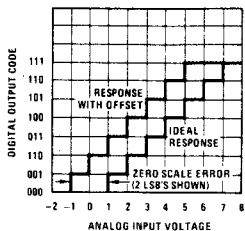

FIGURE 10. A/D Transfer Characteristic with Offset
**Zero Scale Error (or Offset):** Zero Scale Error is a measure of the difference between the output of an ideal and the actual A/D for zero input voltage. As shown in Figure 10, the effect of Zero Scale Error is to shift the transfer characteristic to the right or left along the abscissa. Any voltage more negative than the LSB transition gives an output code of 000. In practice, therefore, the voltage at which the 000 to 001 transition
takes place is ascertained, this input voltage's departure from the ideal value is defined as the Zero Scale Error (Offset) and is expressed as a percentage of FS. In the example of *Figure 10*, the offset is 2 LSB's or 0.286% of FS.